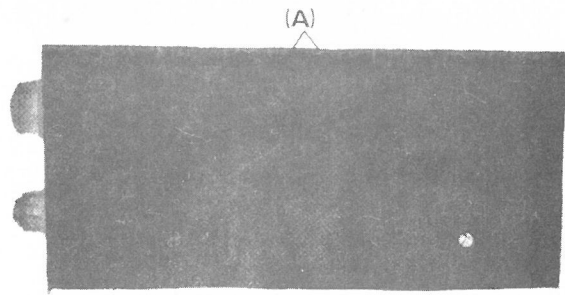

Figure 2
1. Remove 4 screws (A), from the left and right side of wood cabinet (Figure 2).